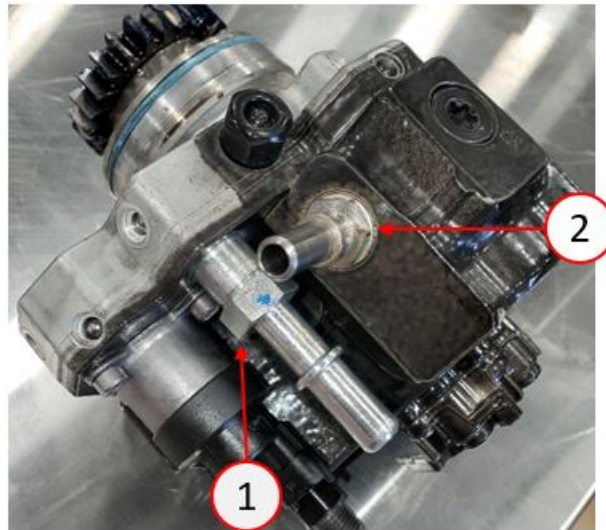

Fig. 6
14. Install the supply and return quick disconnect fittings onto the pump as shown below and tighten to 24 N·m (17.7 ft lbs) (Fig. 6) .